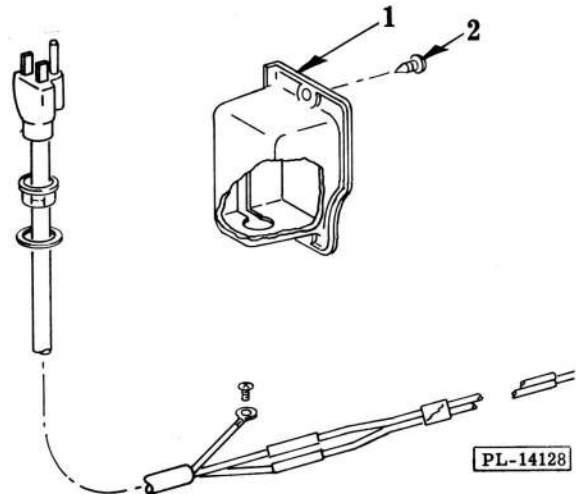

Fig. 47
1. Remove two mounting screws (2, Fig. 47) from cord housing.
2. Remove power cord housing (1, Fig. 47) from cabinet and push end of cord through cord housing slot.